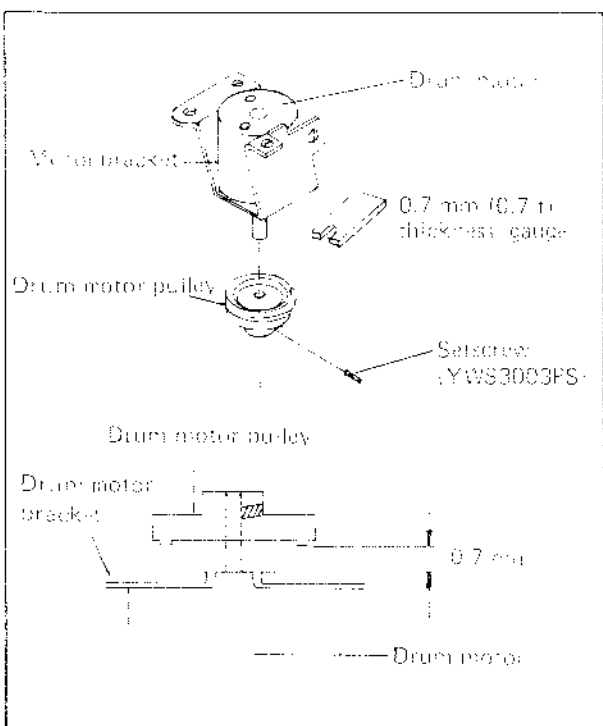

Fig. 5-23
3. When mounting the motor pulley to the replacement DC motor, set 0.7 mm thickness gauge between motor and motor pulley as shown in Fig. 5-23. After replacement, verify the belt running position in Play mode. Also perform adjustment of drum servo circuit. (Refer to section 6.3.)